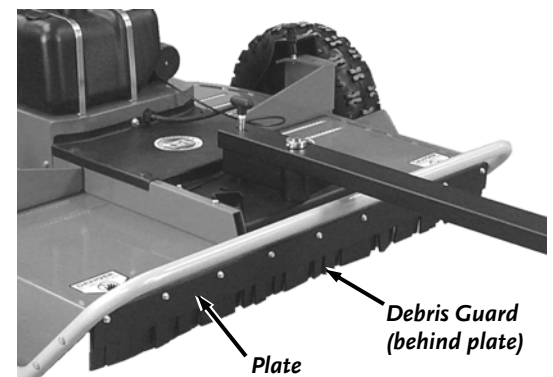

Figure 28
- When performing any adjustment or maintenance, you must first shut off the engine, wait five (5) minutes to allow parts to cool and disconnect the spark plug wire(s), keeping it away from the spark plug(s).
- Inspect the Debris Guard before each use and often during use (**Figure 28**). If you notice damage to the Debris Guard, DO NOT continue to use your machine.